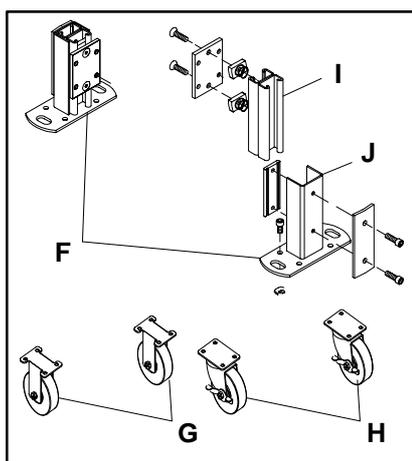

Figure 2: 152 mm & 203 mm High Steel Support Stands
Steel Support Stands (Figure 2)
Steel stands are available with permanent floor mounting feet (F of Figure 2) or with optional fixed position (G) or rotationally lockable, pivoting casters (H). The steel stand assemblies consists of several different combinations of differing length legs (I), differing length boots (J) and stabilizing cross members (K) that match the respective conveyor widths.